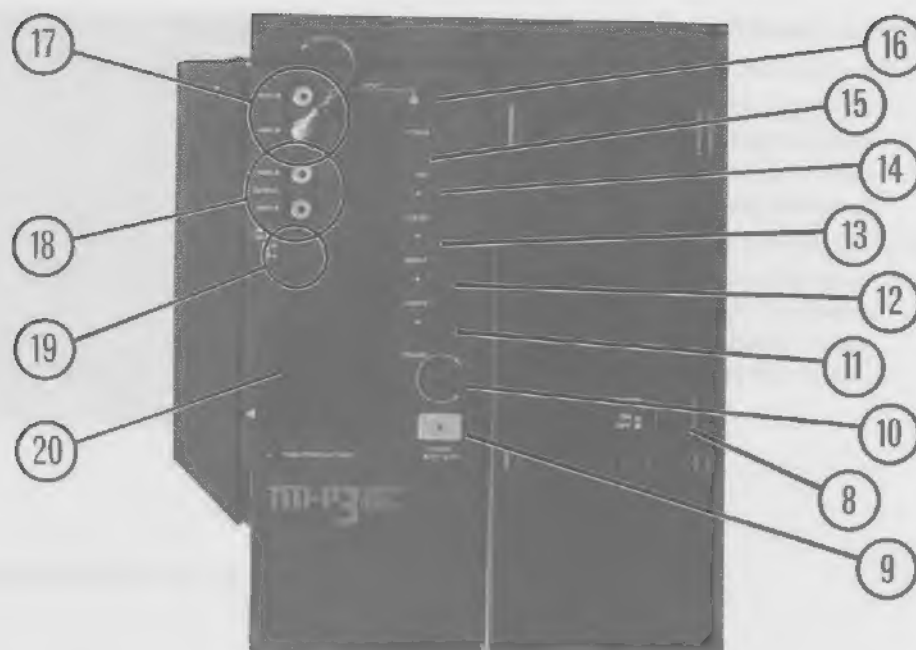

Figure 2-2. Top panel
Refer to Figure 2-2 for references (8) to (20).
- ⑧ **POWER OFF-ON switch** Push to switch on the waveform monitor section. Push again to switch off. The red PWR LED (4) glows when power is on.
- ⑨ **POWER OFF ON switch** Push to switch on the picture/sound monitor section. Push again to switch off. One of the red LED's (3) on the front panel glows when power is on.
- ⑩ **VOLUME control** Turn clockwise to increase volume.
- ⑪ **CONTRast control** Turn clockwise to increase picture contrast. The control is detented at the normal setting for correct video levels.
- ⑫ **BRIGHTness control** Turn clockwise to raise picture brightness. The control is detented for normal brightness setting at average viewing conditions.
- ⑬ **COLOR control** Turn clockwise to increase color saturation. The control is detented at the correct setting for signals with the correct Y:C ratio.
- ⑭ **TINT control** Adjusts decoder phase for correct hues. The control is detented at mid-range for correct color for normal NTSC input signals.
- ⑮ **V-HOLD** Adjusts vertical scan frequency. Set as needed to prevent vertical rolling of the picture.
- ⑯ **6-pin CH-2 connector** Accepts audio and video inputs to CH-2 via a six-pin connector supplied as a standard accessory.
- ⑰ **Phono-type CH-1 jacks** Accepts audio and video inputs to CH-1 via phono-type plugs. Note: The CH-1 video input jack is normally connected to the loop-through cable from the waveform monitor section.